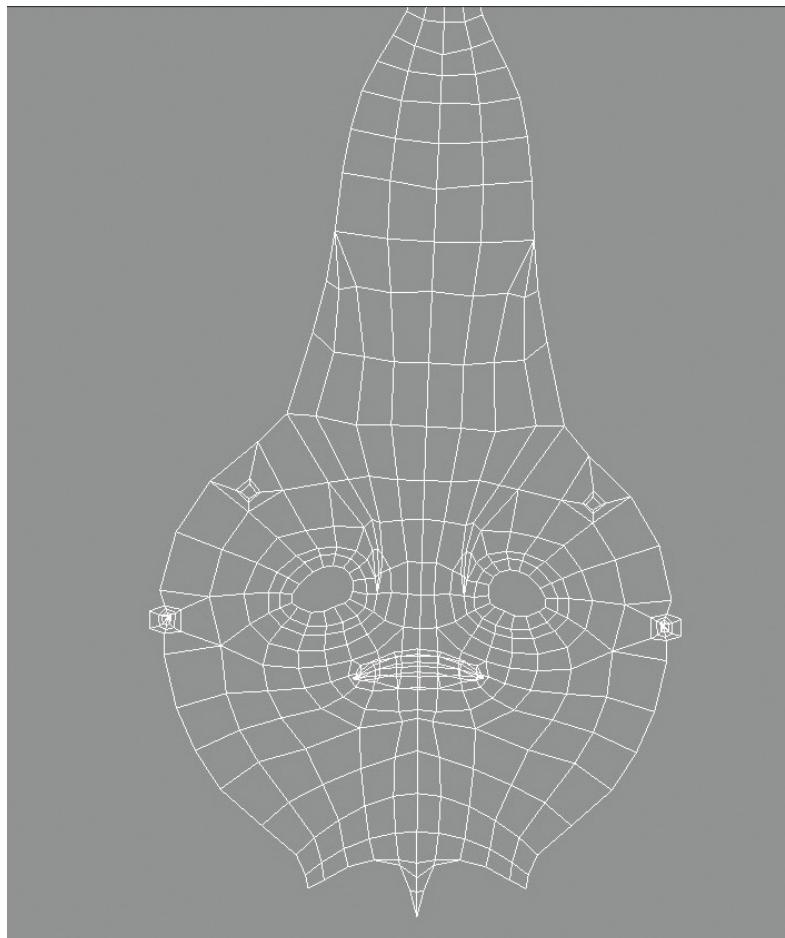

FIG 5.39 Face shell that now includes the shell that was the top and back of the head.
Step 14: Scale this new shell, so that it matches the top of the face shell and attach them together with Move and Sew UV Edges (Fig. 5.39).